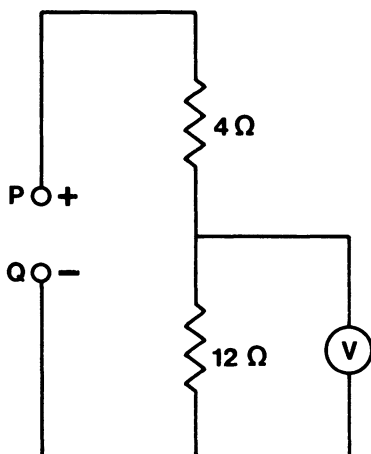

FIG. 3.19
15. In the circuit of Fig. 3.19 a low voltage supply is connected to the terminals PQ and a voltmeter is connected across the 12 ohm resistor.